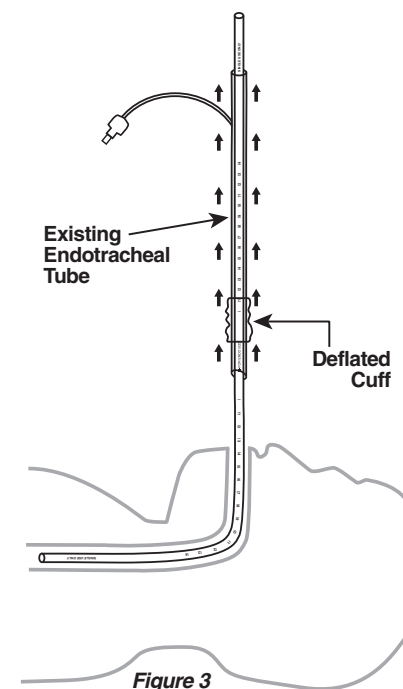

Figure 3
7. While stabilizing the JEM Endotracheal Tube Changer, remove the EXISTING endotracheal tube over the Changer (Figure 3).